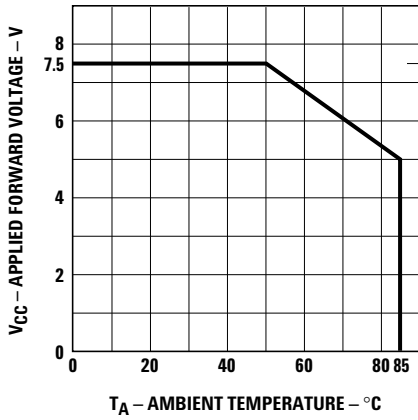

Figure 3. Maximum allowed applied forward voltage vs. ambient temperature  $R\theta_{JA} = 175^{\circ}\text{C/W}$ . 5 volt devices.
2. Derate from  $T_A = 50^\circ\text{C}$  at 0.071 V/°C, see Figure 3.